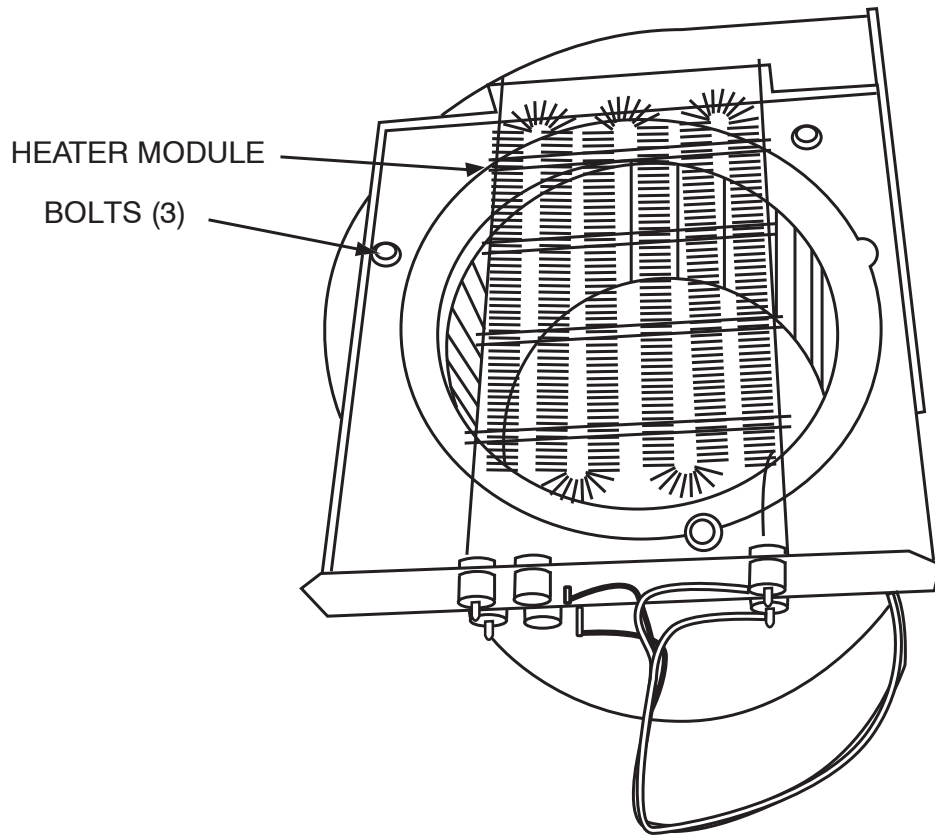

Fig. 3 - Attach Heater Module
- Open heater package and remove heater module; secure heater module to standoffs on blower inlet with (3) bolts provided (see Fig. 3). Adjust mounting position so that all hardware and sheetmetal clears the heating element wire by at least 1/4 in. Reinstall heater/blower assembly.